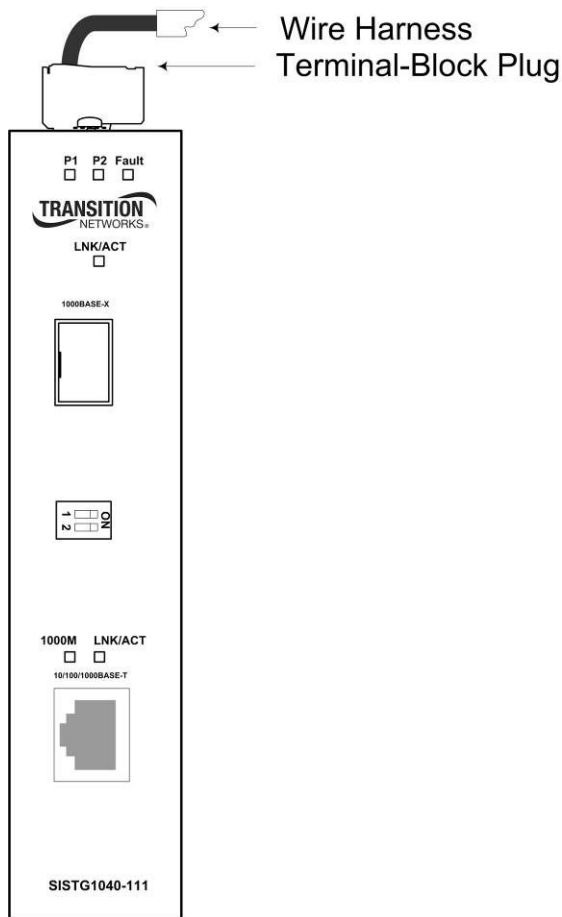

Figure 10: Wired Terminal Block Plug Inserted Into Media Converter
6.	Insert the terminal block plug into the Media Converter's terminal block, as shown in Figure 10.